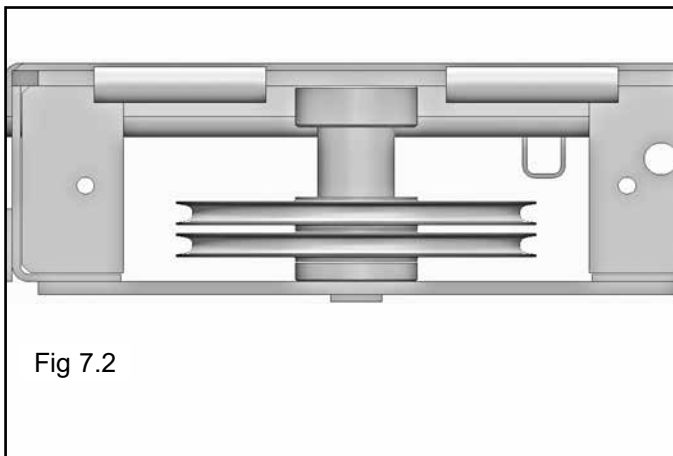

Fig 7.2
4. You must reinstall the SHEAVES, AND PINS in the same order as they are removed.. (See Fig. 7.2 - 7.5)